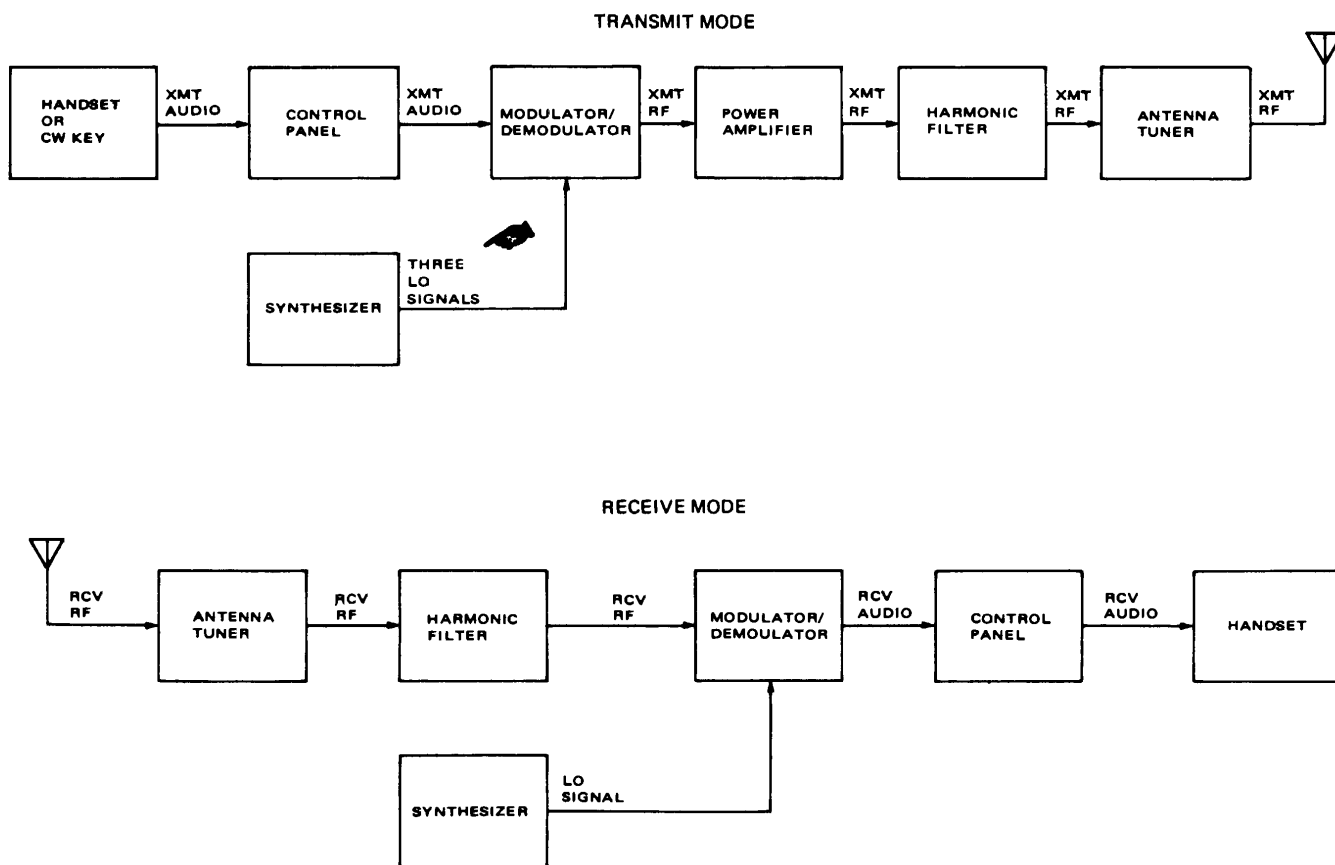

Figure 3-1. Radio Set System Block Diagram
**3-8. TRANSMIT OPERATION** (Figure 3-1). Input